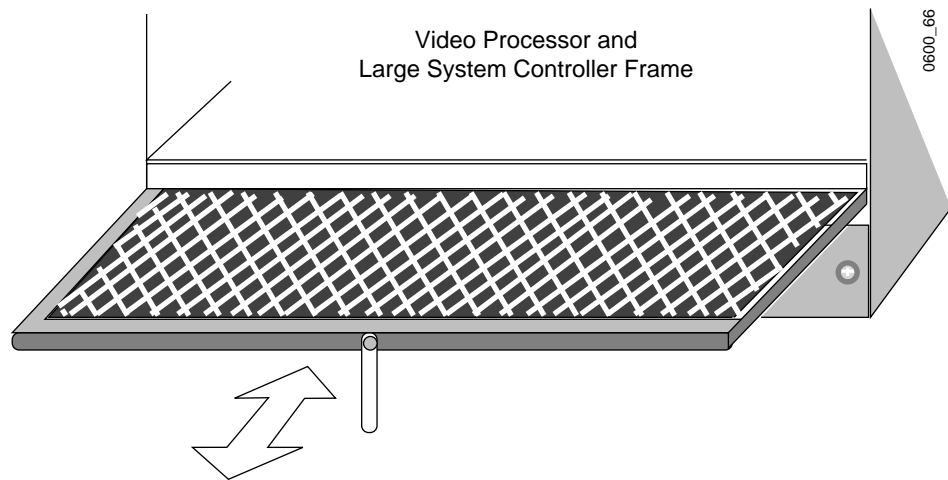

Figure 5-2. Video Processor, Large System Controller Filter Cleaning
1. Open the frame door. The filter is located in a slot below the circuit modules. It has a small, plastic tab-handle (Figure 5-2).